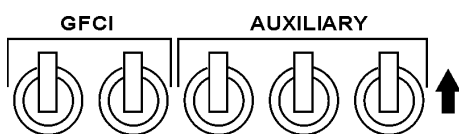

Figure 20. GFCI/AUX. Circuit Breakers (ON)
13. Place **GFCI** and **AUX.** circuit breakers (Figure 20) in the **ON** position.